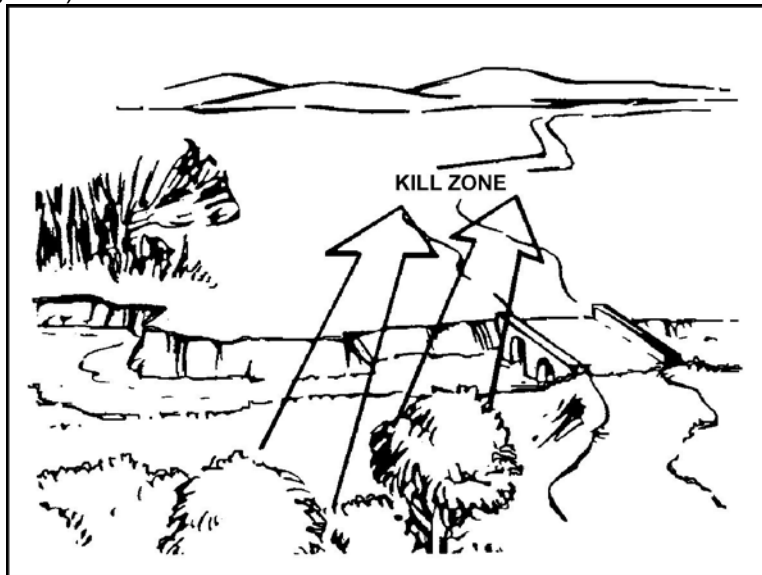

Figure 1. Kill zone where enemy vehicles are likely to cross.
- a. Enemy vehicles are likely to enter. Do not plan kill zones in places where the enemy may not cross (Figure 1).